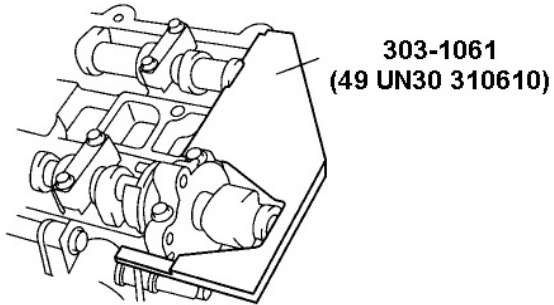

Figure 1. Cam Alignment Plate
1. After obtaining the camshaft alignment plate 303-1061 install it onto the camshaft as shown in Figure 1.